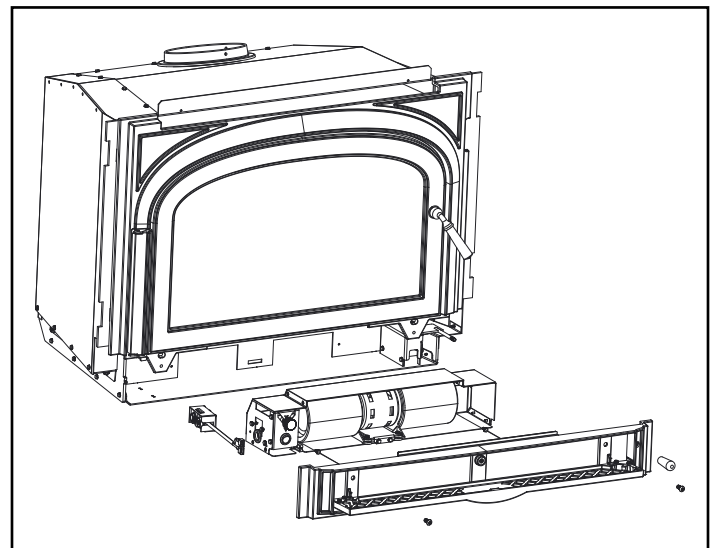

Figure 22.2
3. The grille on the blower access assembly is hinged. Swing the grille downward to expose the 2 screws (**Figure 22.2**).